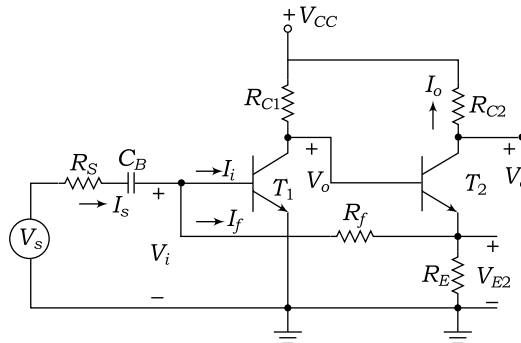

Fig. 4.54
25. Figure 4.54 shows the transistor feedback amplifier circuit and it has the following parameters: